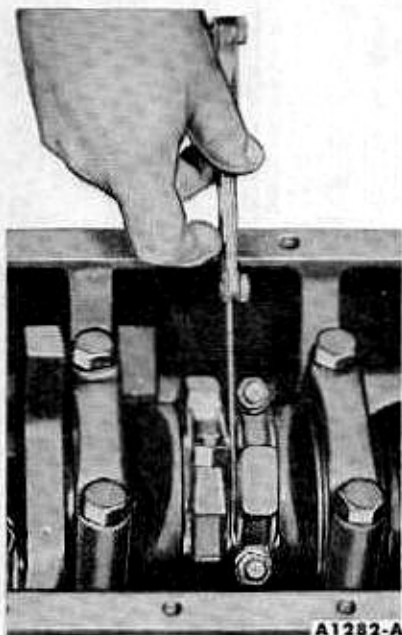

FIG. 37—Connecting Rod Side Clearance
10. After the piston and connecting rod assemblies have been installed, check the side clearance between the connecting rods on each crankshaft journal (Fig. 37).